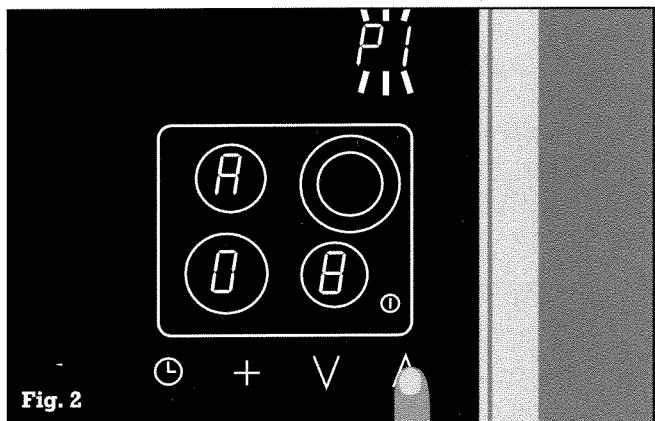

Fig. 2
- You can now touch symbols \vee or \wedge and select a quick boil time from 1 to 15 minutes. The selected time ($R01$ to $R15$) is shown on the cooking zone display panel (fig. 2).